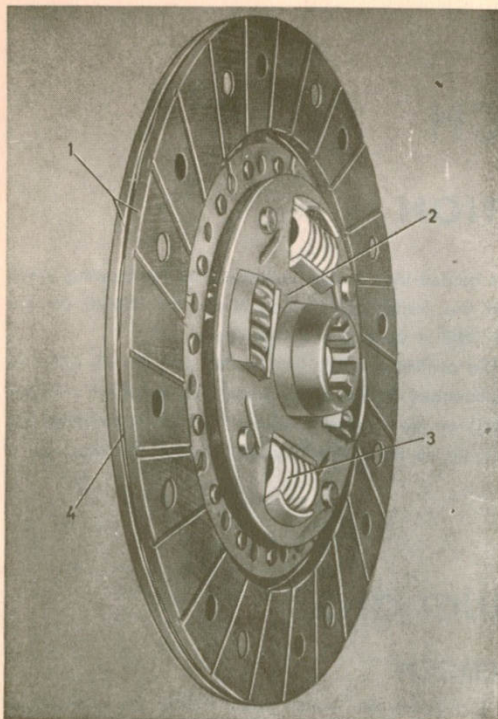

Fig. 2-3. Clutch plate
3. Rivet on the new facings (preferably in a rivet press). Note. The rivets should be inserted from the side on which the facing lies and riveted from the opposite direction against the disk. Use every other hole in the facing. After riveting, the facings should be spaced from each other as determined by the indentations in the disk. See Fig. 2-3. This is most important in order to achieve a smooth engagement when starting and driving. The clutch facings must be absolutely free from oil. Oil on the facings can cause the clutch to chatter or grab.